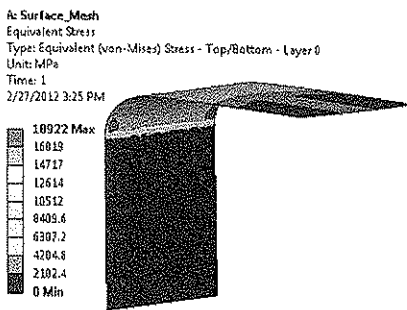

Figure 8-63 Equivalent Stress contours in the model
6. Select **Equivalent Stress** in the Tree Outline; the corresponding contours are displayed in the Graphics screen, as shown in Figure 8-63.